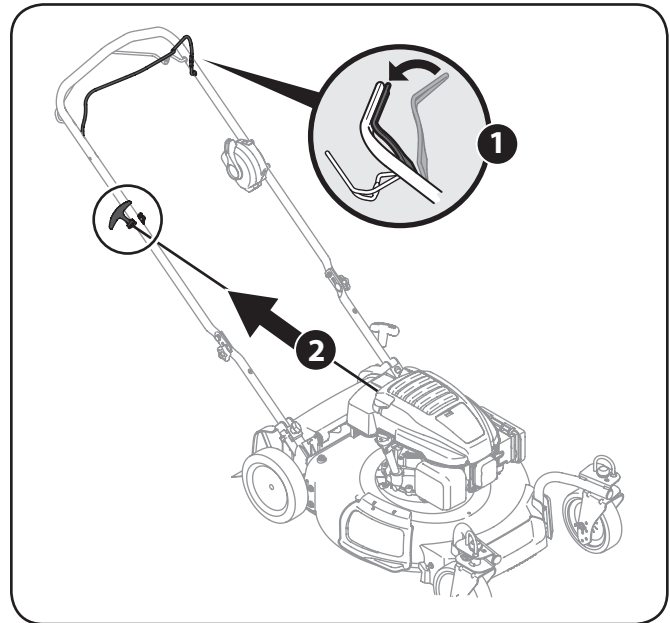

Figure 5-1
1. Standing behind the mower, squeeze the blade control against upper handle. See Figure 5-1.